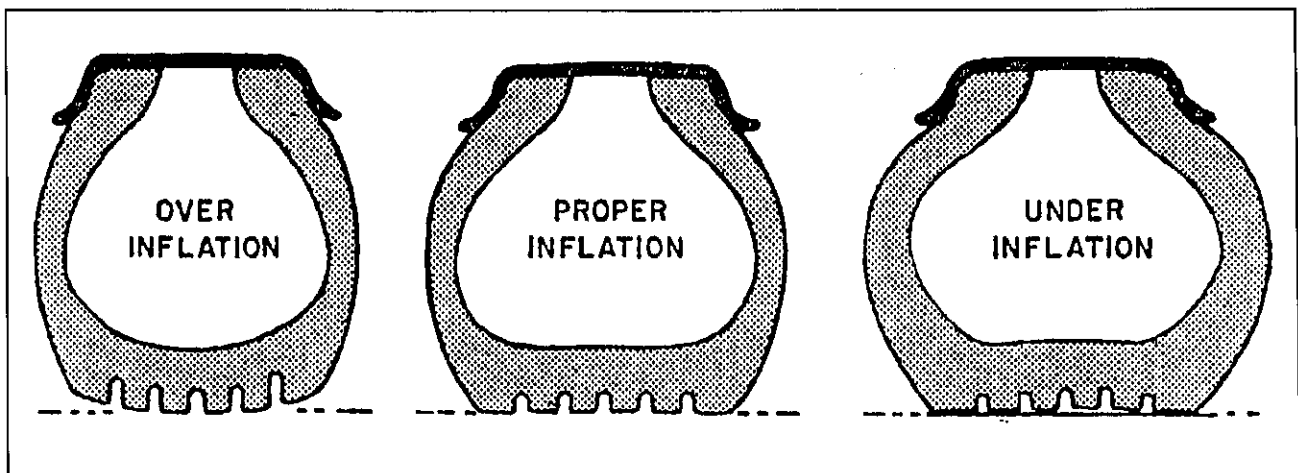

Fig. 4-10 Tire Inflation Examples
**4-11.1 Tire Inflation.** Tire inflation will cause tire to ground contact characteristics as shown in **Figure 4-10**. Tire inflation should be checked daily while the tire is cold, and during road stops. Checking the tire pressures while tires are hot will give a faulty increased pressure reading. Adjusting tire air pressure to the specified amount while tires are hot will produce improper tire to road contact and thus abnormal wear. Do not exceed cold inflation pressure listed on the trailer VIN plate located on the front of the semitrailer. Exceeding cold inflation pressure will result in damaged tire bodies, rims, and wheels. Replace all valve stem caps when pressure checking/adjusting has been completed. Remove any foreign objects from between duals.